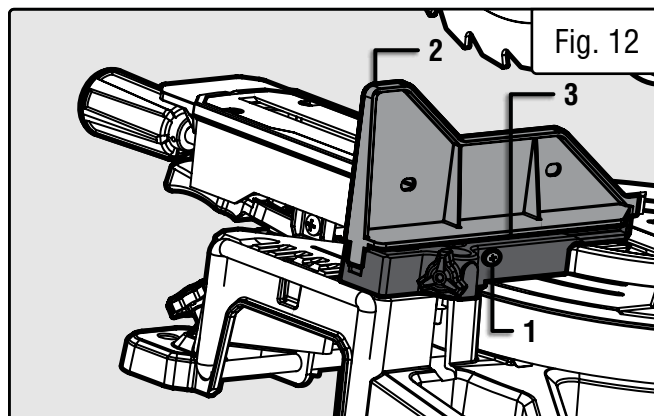

Fig. 12
1. Loosen the fence adjustment screws (Fig. 12 - 1).
2. Adjust the fence as desired. The top portion of the left fence (Fig. 12 - 2) can slide to the left and right, while the bottom portion of the fence (Fig. 12 - 3) stays stationary.